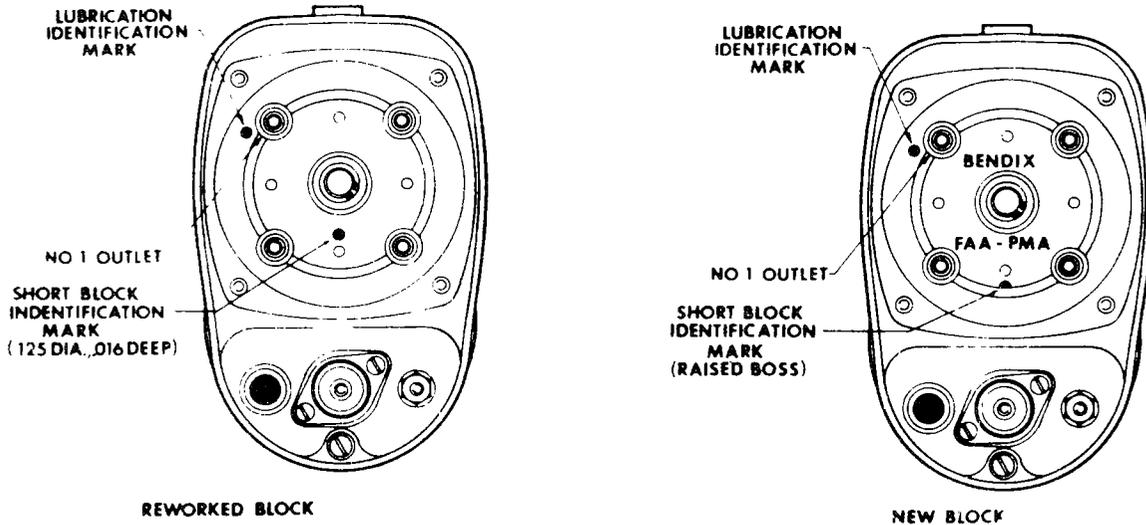

Figure 2
boss between the high tension towers at the six o'clock position and molded in letters as shown in figure 2. Reworked blocks are identified by a drill point indentation in the same location. New and reworked blocks both have different part numbers from the current (old) block. See Table 1.
7. Identify reworked blocks by drilling a flat bottomed hole .125" diameter and .016" deep in the six o'clock position as shown in figure 2.
a. If distributor block is not marked with a raised boss or drill point indentation to the left and adjacent to the No. 1 high tension tower (see figure 2), remove old lubricant from bushing as follows.
(1) Place distributor block, high tension towers up, on a piece of absorbant material, such as cardboard, in a 250°F oven for 4 hours. This should cause impregnating oil to appear on the surface of the bushing and on the absorbant material.
(2) Remove block from oven and using a clean dry cloth, immediately wipe all oil possible from inside diameter of bushing. It may be necessary to do this several times as part cools.
(3) Identify distributor block by drilling flat bottomed indentation .125 inch diameter and .016 inch deep located as shown in figure 2.